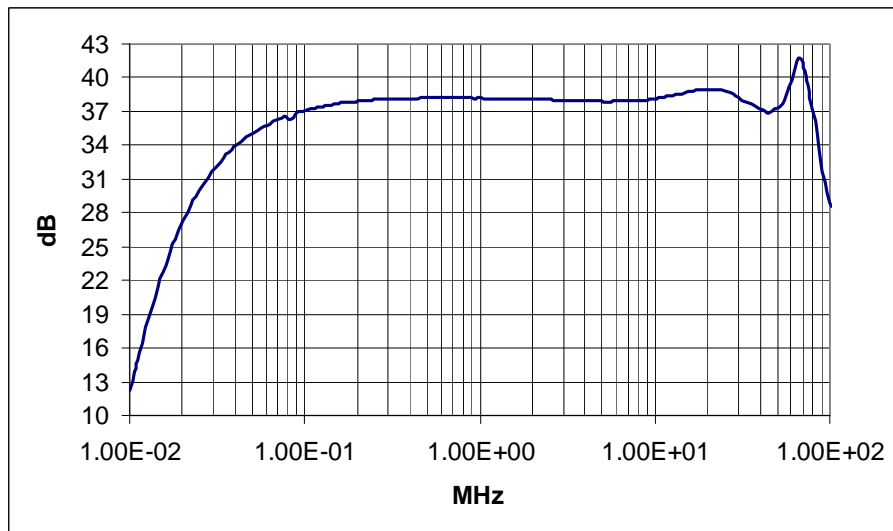

Figure 9 – Input Drivers Transfer Function
5.2	Entering on the amplifier input connector, measure the drivers chain transfer function (Reference shown in figure 9). Repeat using the second SMA connector as output.